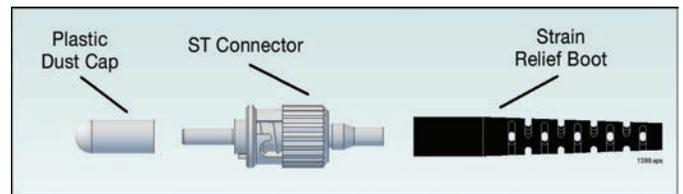

Figure 13. 4 components of the ST® connector.
3. The ST connector assemblies that you will use in this activity consist of three parts as shown in Figure 13. Each assembly contains a black rubber strain relief boot, stainless steel connector body and a plastic dust cap. The connector body is an assembly with a long cylindrical tube (the ferrule), and a spring-loaded locking ring held in place by a C-ring.